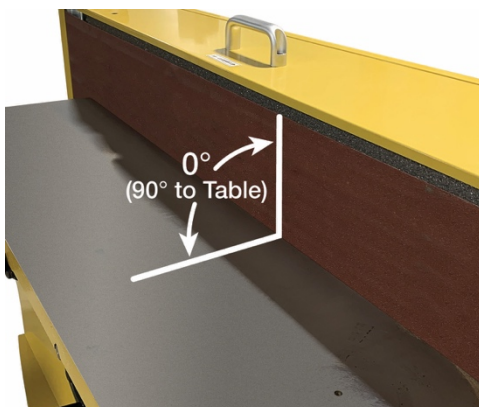
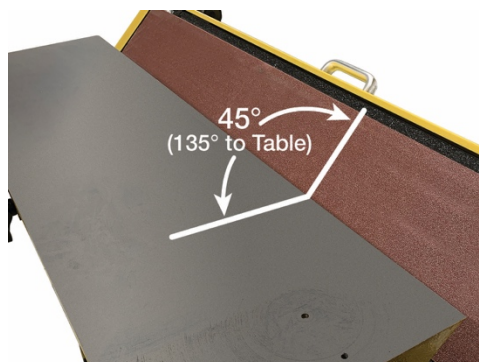

Figure 9-4: Adjusting Sanding Belt to 0° (90° to table)
Figure 9-5: Adjusting Sanding Belt to 45°
2. Make sure the oscillation rate-adjust knob (H) and sanding belt speed-adjust knob (I) are turned all the way to the left (counterclockwise). These positions turn the oscillation feature and the belt rotation off.
3. Press the ON button (C). The button will illuminate when ON.
4. Turn the sanding belt tilt wheel (F) clockwise until it stops.
5. Place 90° square on the table and against front of sanding belt (Figure 9-4).
6. If the belt is not at 0° (90° to the table), adjust the 0° stop screw (S). Loosen nut (R) on 0° stop screw (S) and turn the screw to proper height. Verify setting on square and sanding belt. Retighten nut (R) against the trunnion (T). Press the 0° set button (L) to save this corrected setting.
7. Turn the sanding belt tilt wheel (F) counterclockwise until it stops.
8. Set your adjustable square to 135° and place it on the table and against front of sanding belt (Figure 9-5).
9. If the belt is not at 135° (45° sanding angle), adjust the 45° stop screw (Q). Loosen nut (P) on 45° stop screw (Q) and turn the screw to proper height. Verify setting on square and sanding belt. Retighten nut (P) against the trunnion (T). Press the 45° set button (M) to save this corrected setting.
10. Press OFF button (B) to turn machine off.